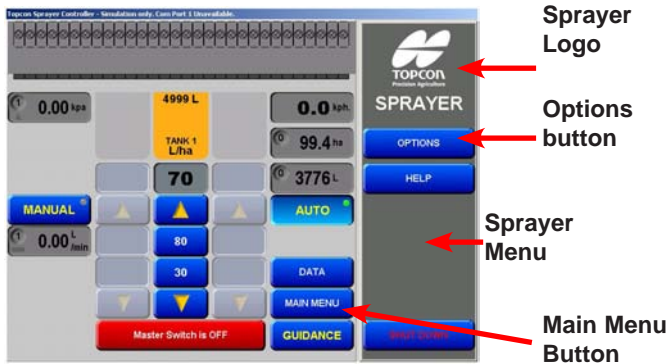

Figure 6-5. Sprayer Working Screen
The *Sprayer Working* screen (Figure 6-5) will be displayed.
Please note: If you selected to display the Spray Controller only then the *Sprayer Working* screen (Figure 6-5) will be displayed after Step 4, instead of the *Guidance* screen (Figure 6-4 on page 6-3).
When the *Sprayer Working* screen (Figure 6-5) is displayed the Sprayer Menu (Figure 6-5) will be displayed on the right side of the screen.
1. Press the **Sprayer Logo** (Figure 6-5)
- **Close** button—when selected the *Sprayer Working* screen (Figure 6-5 on page 6-4) will be displayed again.